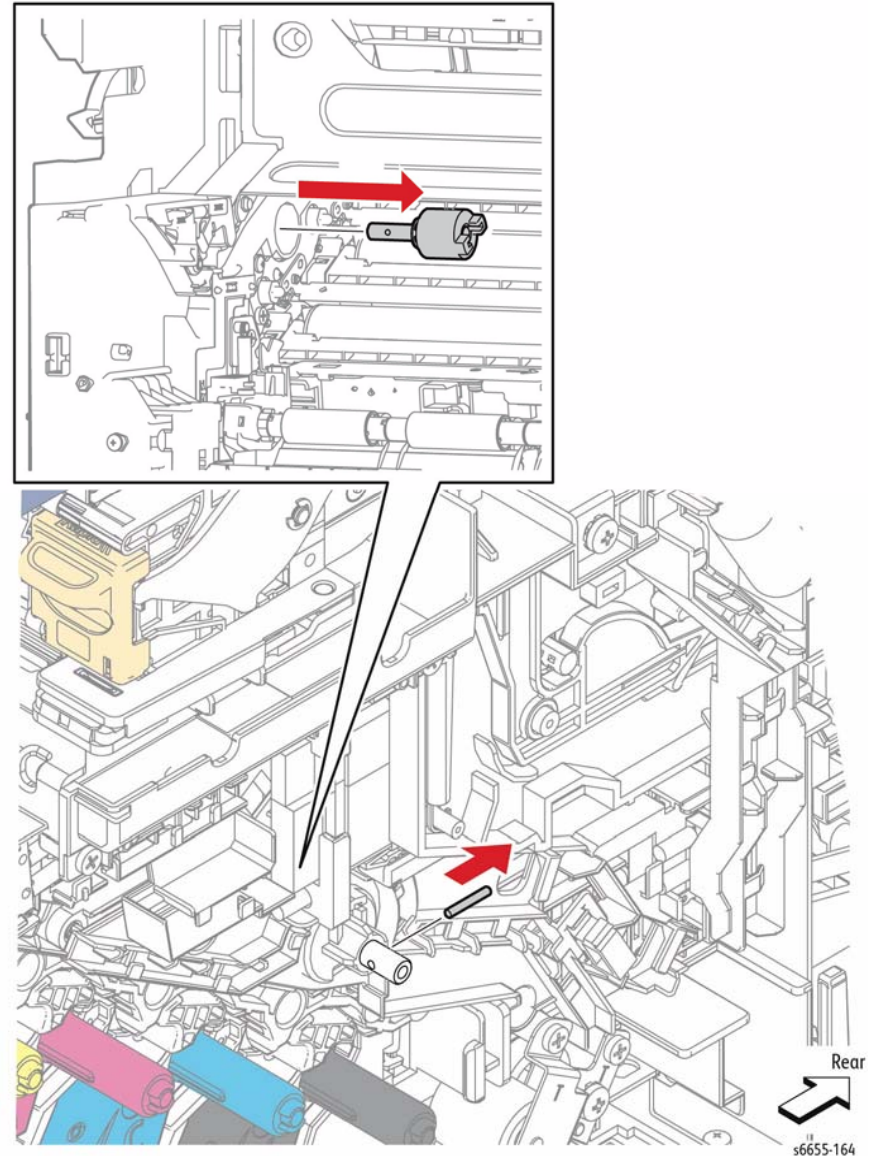

Figure 1 Remove the Coupling Kit
3. Refer to Figure 1 to locate and pull out the Dowel Pin.